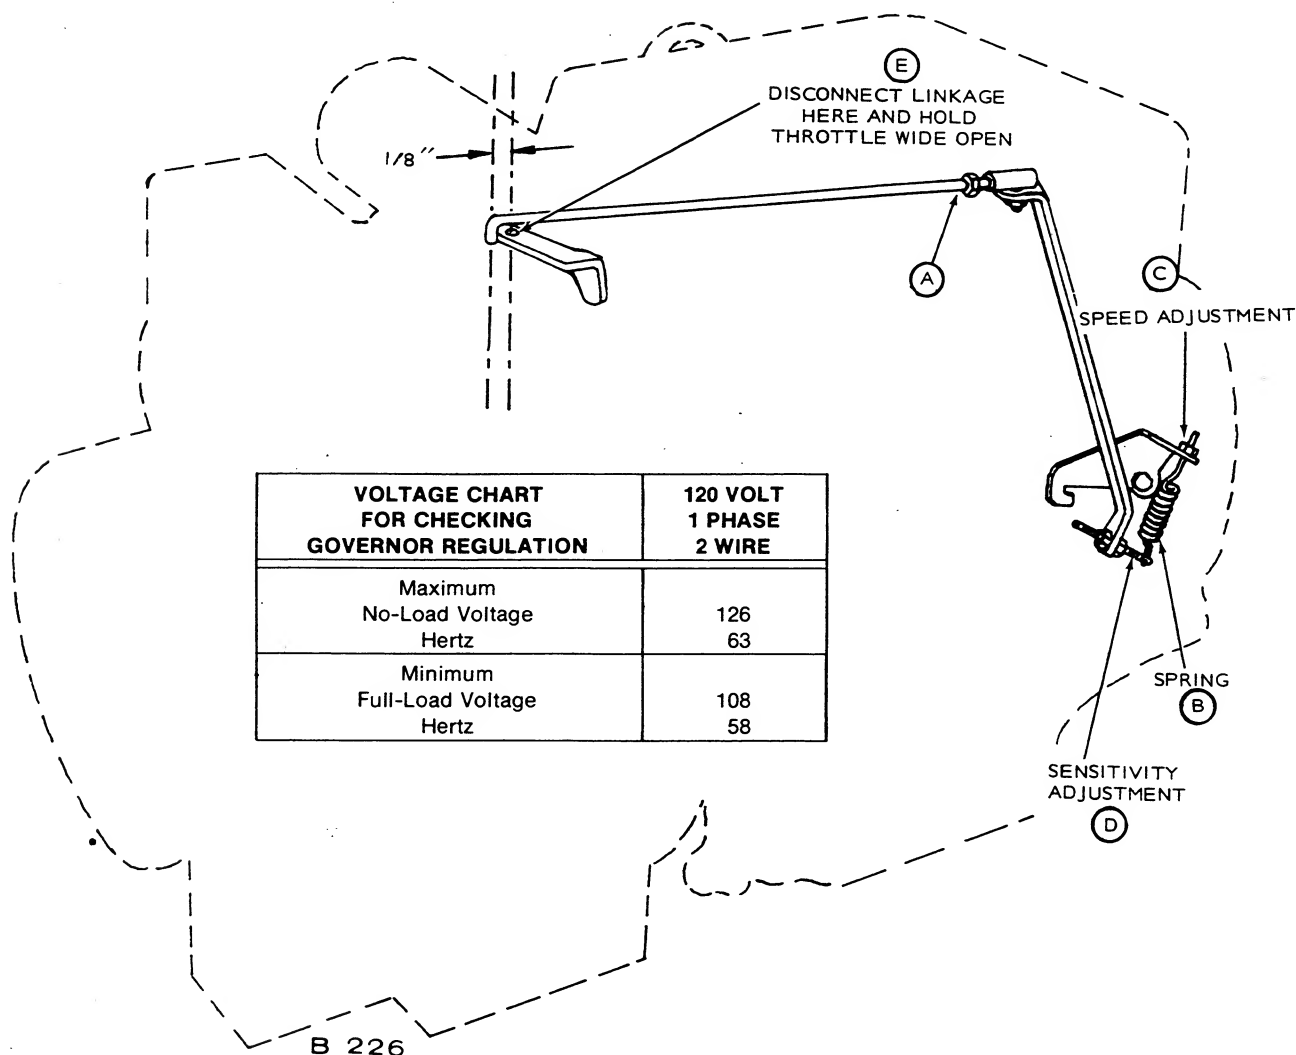

FIGURE 7. GOVERNOR ADJUSTMENTS
The governor controls engine speed by opening or closing the throttle according to the load taken off the set (Figure 7). The engine speed also determines voltage and frequency of the generator current. Before readjusting the governor linkage, check for binding at the linkage or throttle.
4. If voltage falls below 108 volts (with full load), loosen the hex nuts on sensitivity spring stud and screw stud (D) inward (clockwise) or recheck step 1. If voltage is within limits, but tends to surge (alternately increases and decreases), turn the spring stud outward (counterclockwise) until voltage stabilizes.
Turning sensitivity stud (D) in or out, usually requires a corresponding change in speed adjustment nut (C). Table in Figure 7 shows proper voltage speed and frequency ratings.